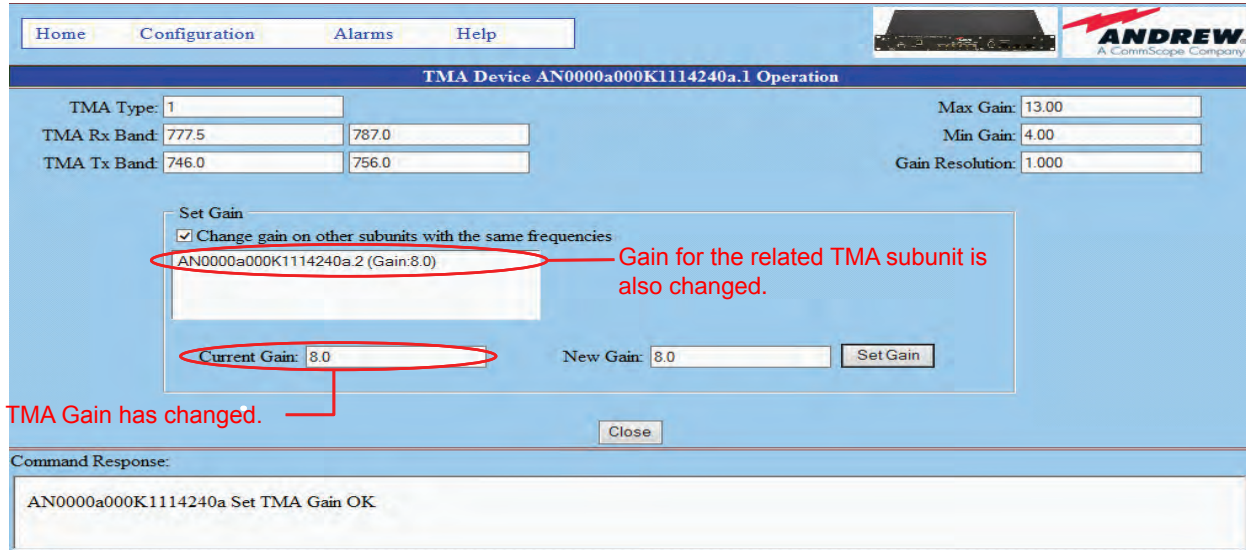

Figure 23-8. TMA Gain has successfully been changed.
- After the TMA has changed its gain, the new gain value is displayed in the **Current Gain** field (Figure 23-8). Also note that the Gain of the TMA subunit displayed in the list under the check-box “Change gain on other subunits with the same frequencies” is also changed to the New Gain value as shown in Figure 23-8.